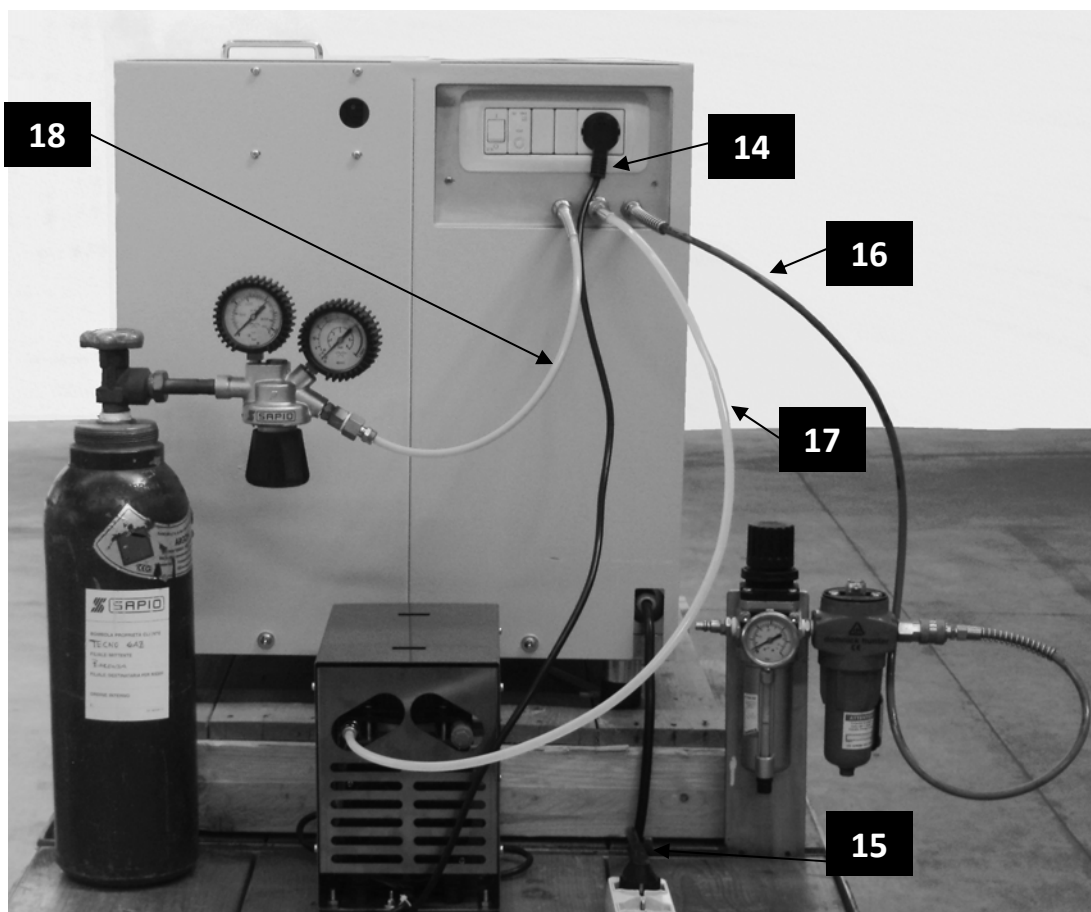
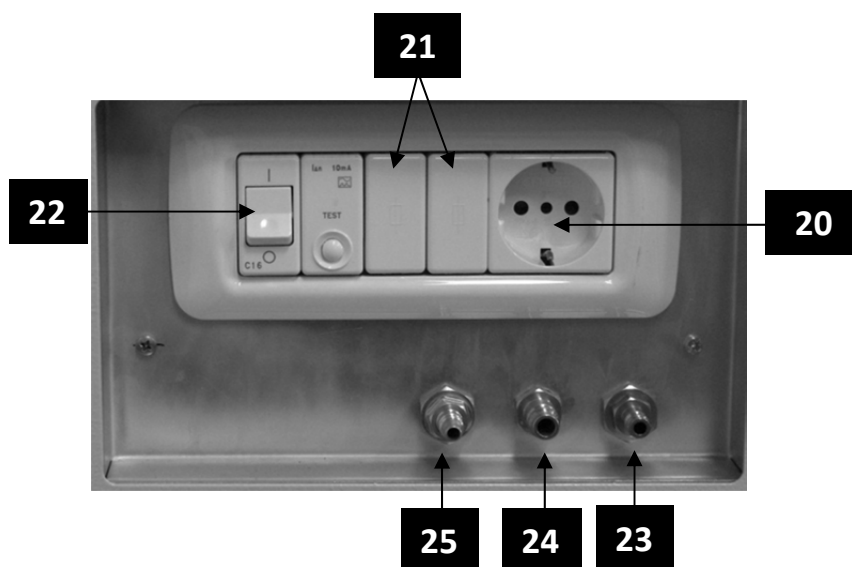

Fig. 2
Fig. 3
The electrical power cable (Pos.15, Fig.2)
The tube for the compressed air connection (Pos.16, Fig.2)
The tube for connecting to the vacuum pump (Pos.17, Fig.2)
The tube for connecting to the argon gas cylinder (Pos.18, Fig.2)
The socket for powering the vacuum pump, along with the relative protection devices (Pos.20, Fig.3).
The main electrical switch with the circuit breaker (Pos.22, Fig.3).
2) Make sure that the main switch (Pos.22, Fig.3) is in its "0" position (off);
Insert the electrical plug (Pos.15, Fig.2) into an electrical outlet with the following characteristics:
when finished, apply the tube's female quick connector (Pos.16, Fig.2) to the male connector (Pos. 23, Fig.3) .
4) Connect the white tube (Pos.17, Fig.2) to the vacuum pump's suction fitting and the female quick connector to the male connector (Pos. 24, Fig.3) .
5) Insert the vacuum pump's plug (Pos.14, Fig.2) into the outlet on the casting machine (Pos. 20, Fig.3) .
6) If the unit is equipped with argon gas functionality, connect the yellow tube (Pos. 18, Fig. 2) to the ARGON gas cylinder's pressure reducer and set it at a pressure value of 3 Bar. When finished, apply the tube's female quick connector to the male connector (Pos.25, fig.3).
After having performed the connections as described in Fig.2-3, check to make sure that the upper hatch and furnace cover are open and activate the main switch (Pos.22, Fig.3).